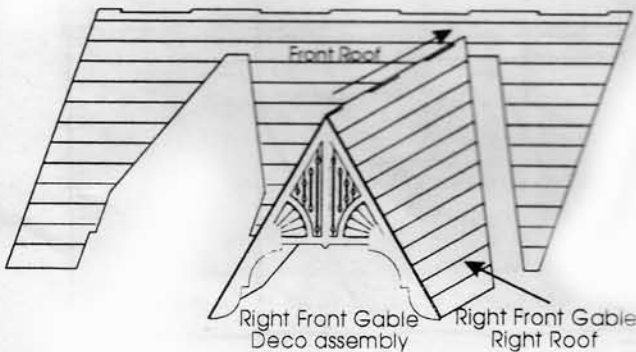

Figure 21
3. Front Roof Assembly- Lay the Front Roof on a table with the good side up. Glue the Right Front Gable Deco./Roof assembly and the Left Front Gable Deco./Roof assembly onto the Front Roof so that the undersides of the Gable Roofs are flush with the Front Roof openings. See Figure 21.